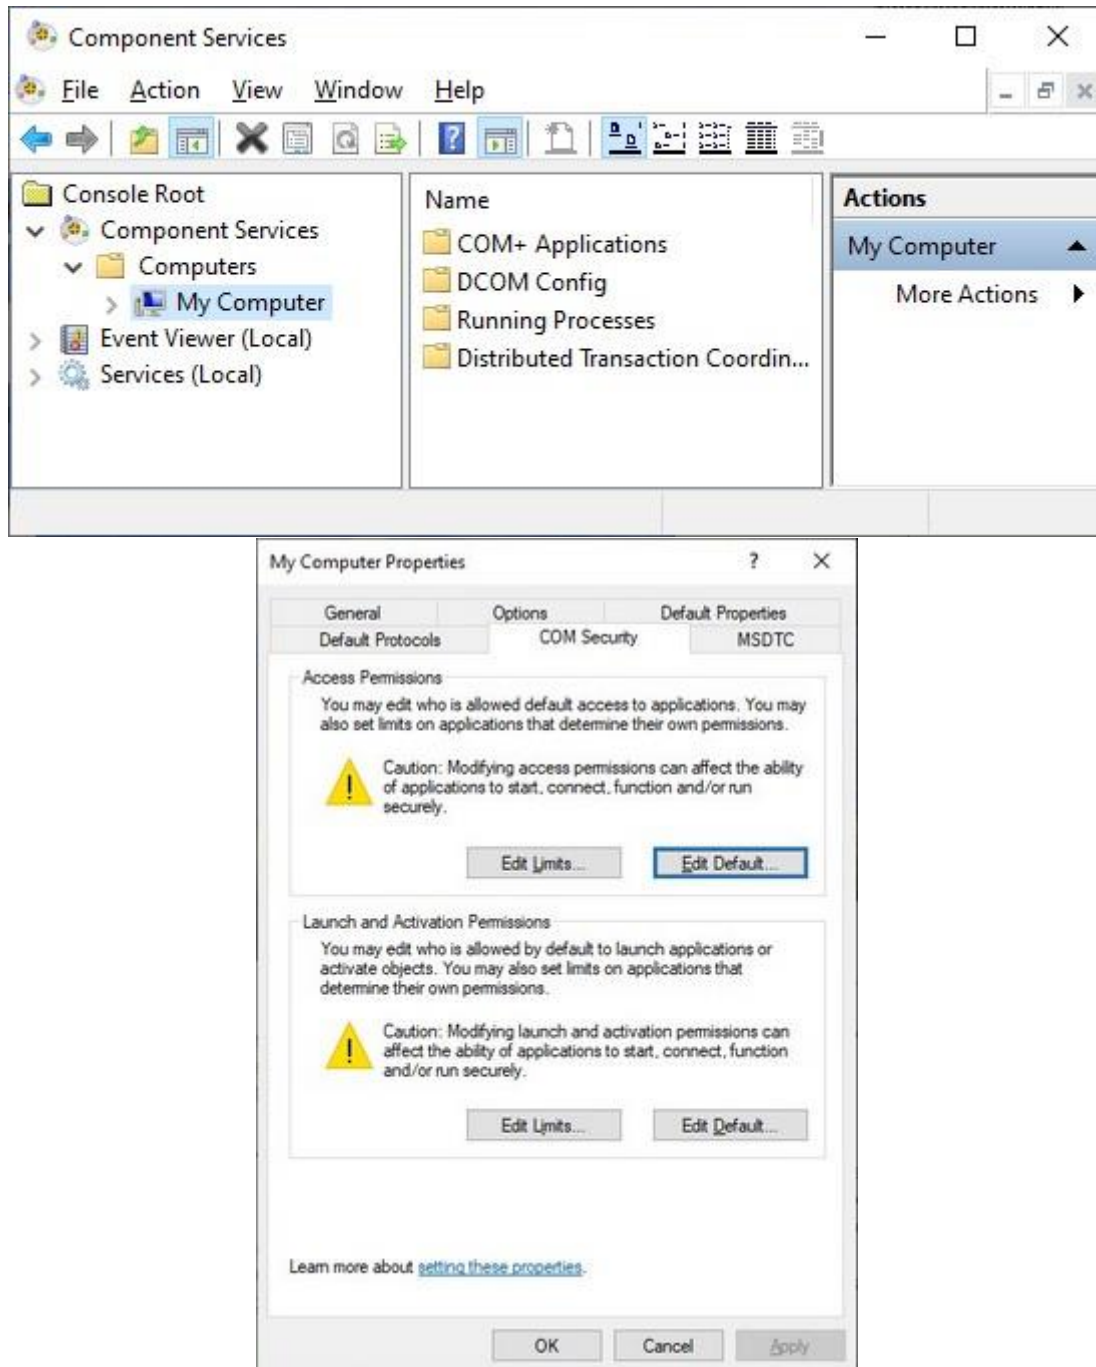

Fig. 1: Component services tool
- Configure the DCOM service using the Component services tool (dcomcnfg.exe) on the server PC (Fig. 1):